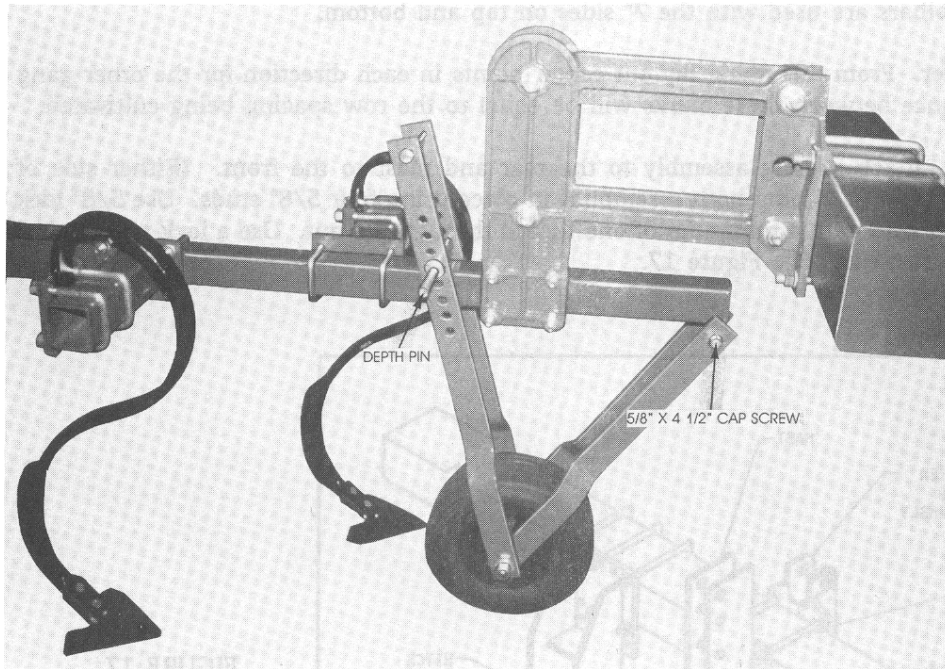

FIGURE 15
1. Install gang gage wheel assemblies using 5/8" x 4-1/2" cap screws. Cap screw and tube on upper end must be removed temporarily for installation. Insert depth pin and klik pin. See Figure 15.
7. Install gang gage wheel assemblies using 5/8" x 4-1/2" cap screws provided. Cap screw and tube on upper end must be removed temporarily for installation. Install depth pin and klik pin. See Figure 15 on page 19.